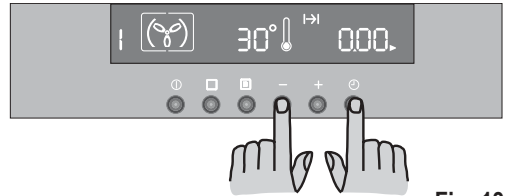

Fig. 13
- press button “-” to decrease the time until "0.00" is displayed (Fig. 13).